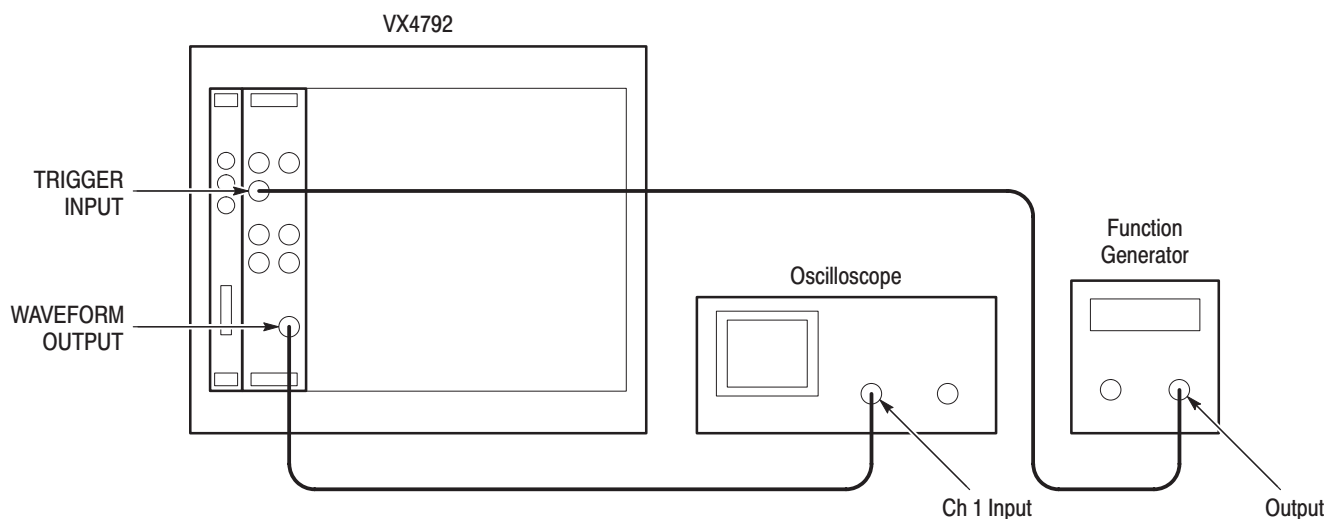

Figure F-17: External Trigger Level Accuracy Initial Test Setup
1. Install test setup and set test equipment controls (see Figure F-17):